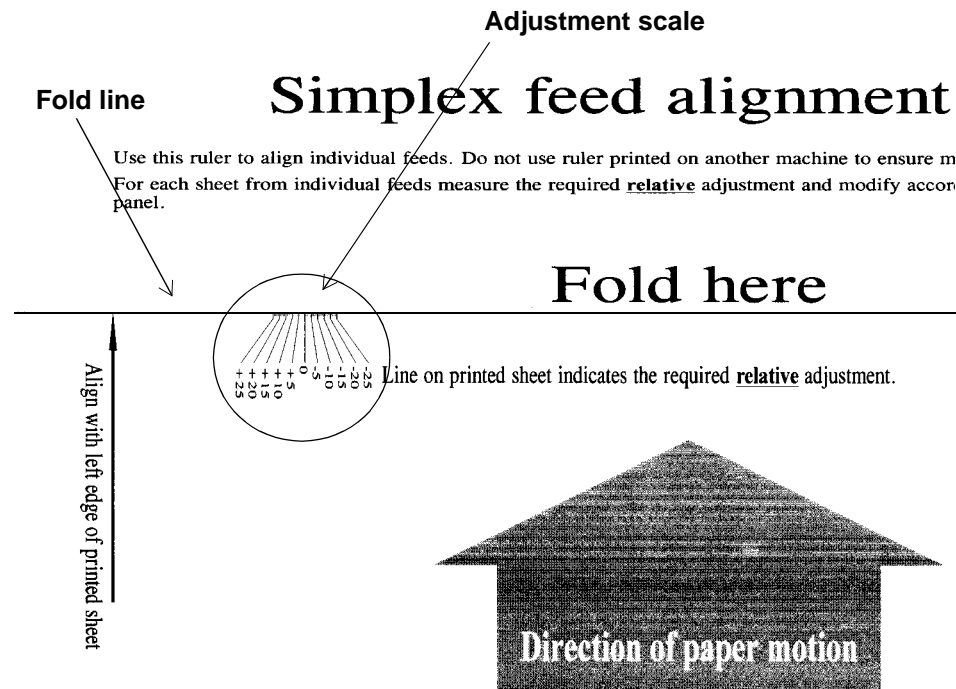

Figure 6-8 Simplex Feed Alignment Ruler Sheet
- a *Simplex feed alignment ruler* sheet. See Figure 6-8.
1. Carefully and accurately, fold the top part of the Simplex feed alignment ruler sheet, shown in Figure 6-8.